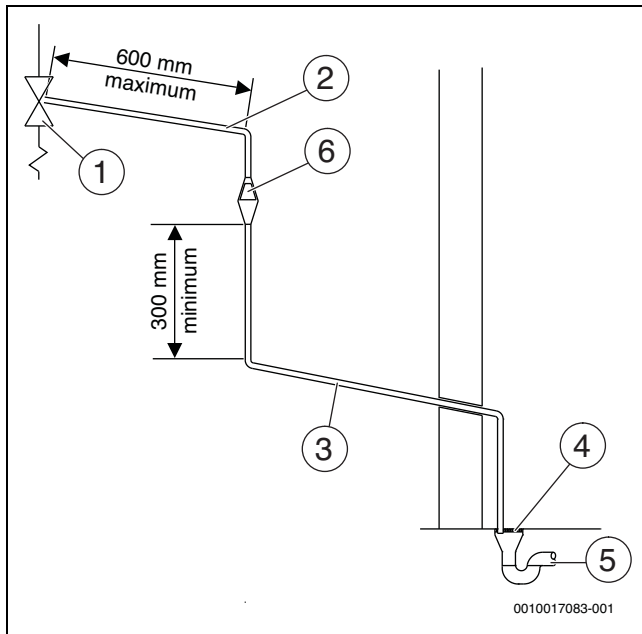

Fig. 16 Diagram of a typical discharge pipe arrangement (extract from Building Regulation G3)
- Be at least one pipe size larger than the nominal outlet size of the safety device unless its total equivalent hydraulic resistance exceeds that of a straight pipe 9 m long i.e. discharge pipes between 9 m and 18 m equivalent resistance length should be at least two sizes larger than the nominal outlet size of the safety device, between 18 and 27 m at least 3 sizes larger, and so on. Bends must be taken into account in calculating the flow resistance. Refer to Fig. 16, Table 8 and the worked example.
1) see Fig. 16